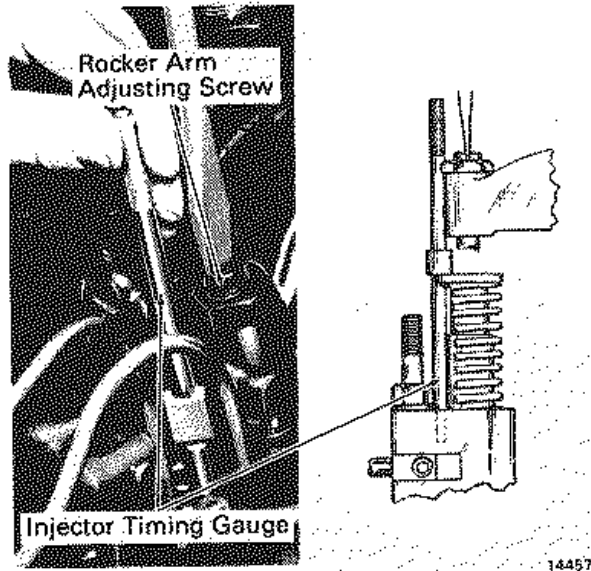

Fig. 5-37 - Timing Injector
2. Insert injector timing gauge into the hole provided for it in the injector body, Fig. 5-37.